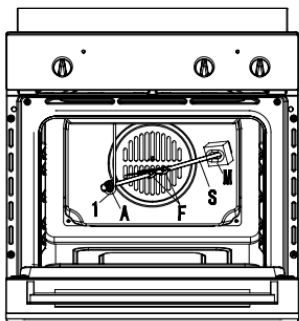

FIG 1
- Fit the knobs protection as shown in (fig. 1)